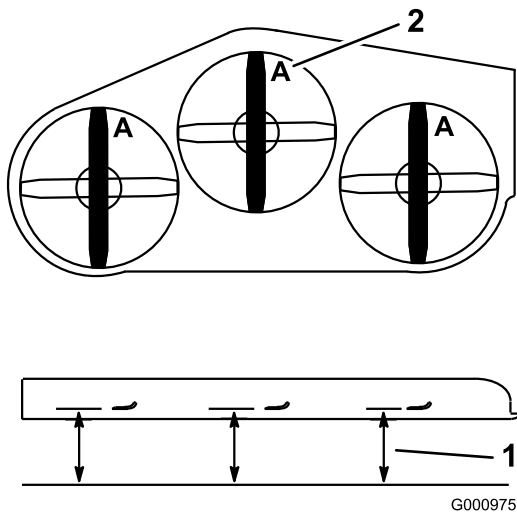

Figure 75
3. Rotate the blades until the ends face forward and backward (Figure 75). Measure from a level surface to the cutting edge, position **A**, of the blades (Figure 75). Note this dimension.